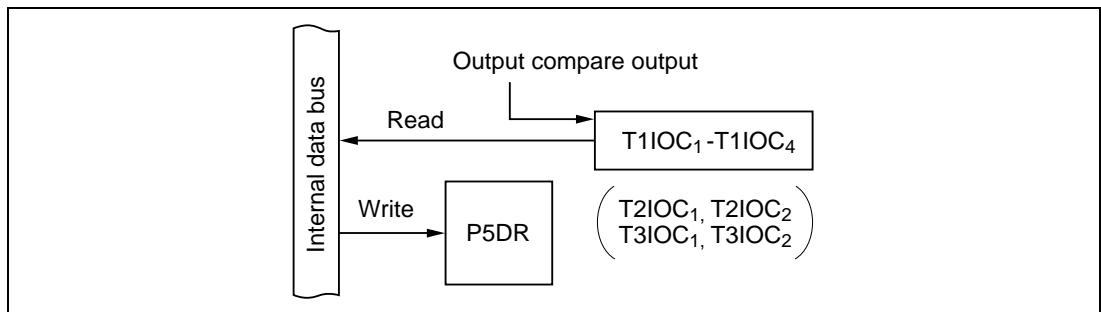

**Figure 10-30 Output Port (Modes 1 to 7)**
**(2) Output Port (Modes 1 to 7):** Figure 10-30 shows a block diagram illustrating the general-purpose output function. Table 10-22 indicates register read/write data. The value written in the port 5 data register (P5DR) is output at the pin. When read, P5DR returns the value written in P5DR.